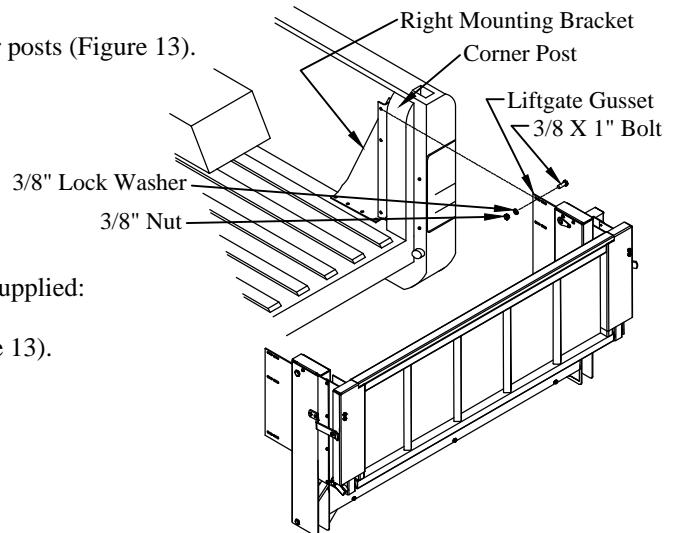

Figure 13: Mounting bracket and liftgate.
1. **Position** the mounting brackets into the truck bed in front of the corner posts (Figure 13).
- (3) 3/8"x1" hex head bolts on the bracket-side (Figure 13).
- (3) 3/8" lock washers, and (3) 3/8" nuts on the gusset-side (Figure 13).